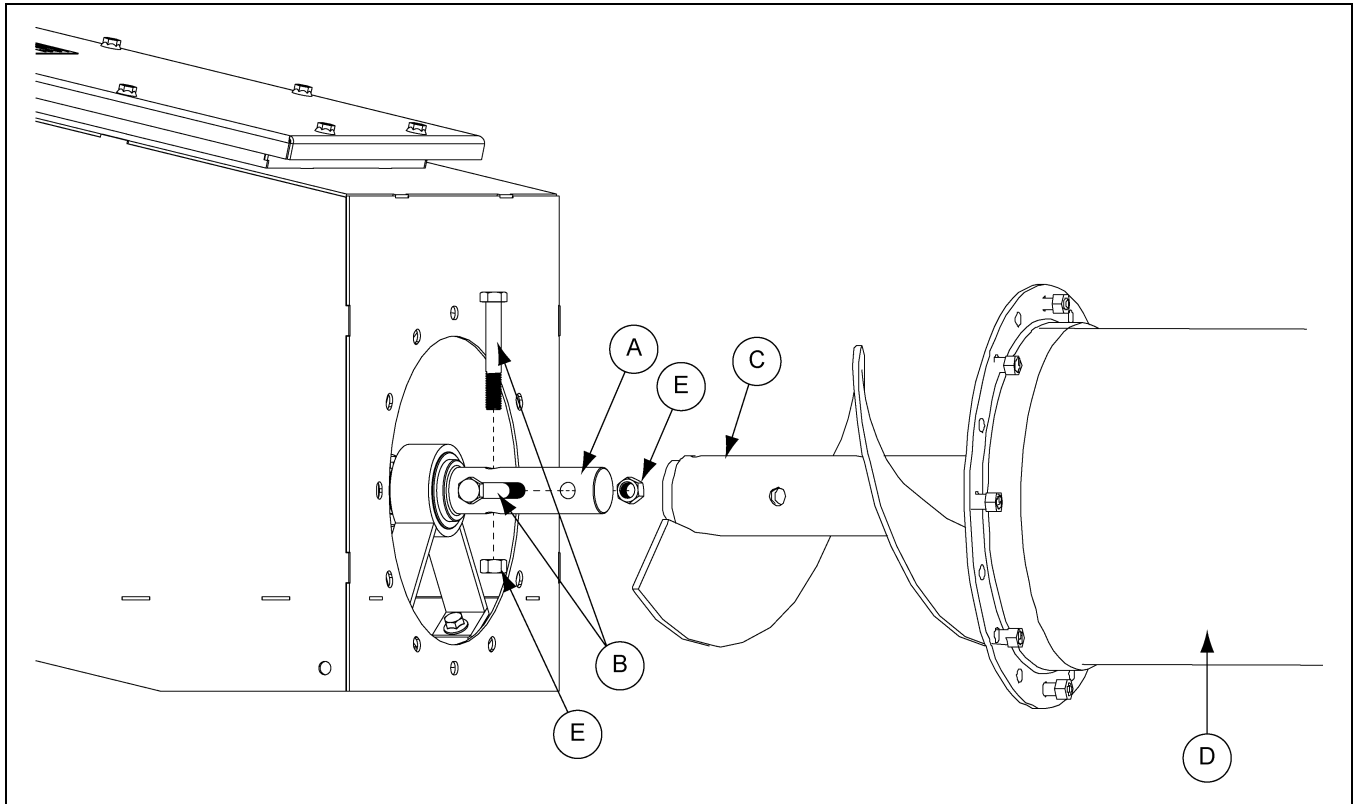

Figure 4C
1. Pull bin unload flight (C) out of unload tube (D) approximately one foot (1').
2. Remove bearing connecting stub bolts (B) and nuts (E) from connecting stub (A).
3. Position 25° unloader assembly in-line with unload tube (D).
4. Align holes in unload flight with holes in bearing connecting stub (A) and slide flight onto stub.
5. With holes aligned, secure with bearing connecting stub bolts (B) and nuts (E) that were removed in Step 2. \(See Figure 4C.\)